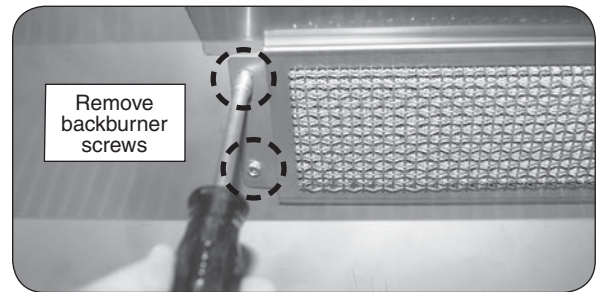

**Fig. 34-2 Remove electrode**
1. Remove the backburner electrode mounting screw (1/4" hex) (see Fig. 34-2, A) and loosen the electrode. Carefully pull the electrode assembly slightly from the grill wall to give enough clearance for the backburner to be removed (see Fig. 34-2, B).